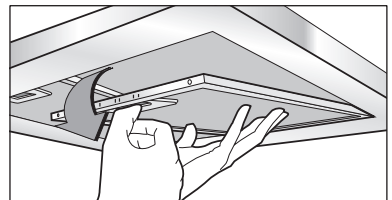

Fig.6
• The minimum distance between the support surfaces of the cooking pots on the cooker top and the lowest part of the cooker hood must be at least **65 cm**. If a connection tube composed of two parts is used, the upper part must be placed outside the lower part. Do not connect the cooker hood exhaust to the same conductor used to circulate hot air or for evacuating fumes from other appliances generated by other than an electrical source. Before proceeding with the assembly operations, remove the anti-grease filter(s) (Fig.6) so that the unit is easier to handle.